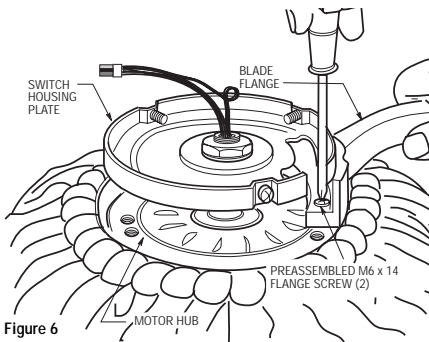

Figure 6
- 10. Rotate the motor hub until the flange screw hole is next to the cutout in the switch housing plate. Loosely attach one blade assembly to the motor hub using two M6 x 14 flange screws preassembled in flange. Make sure the screws are NOT tightened. (Figure 6.) Repeat this procedure for the other four blade assemblies.